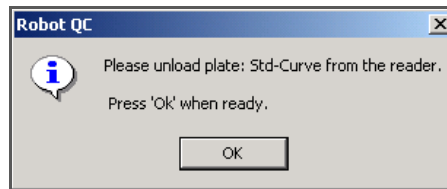

Figure 91 Unload Std Curve Plate Prompt
- When prompted, remove the Standard Curve plate from the reader (Figure 91).